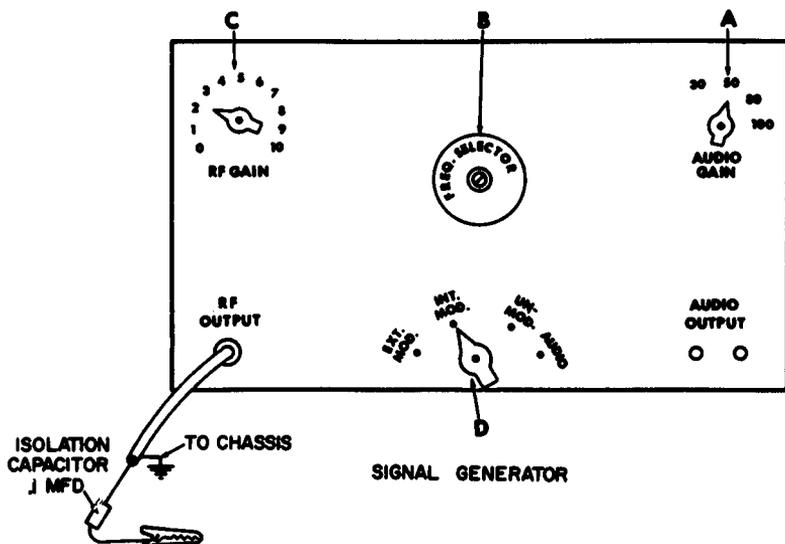

Fig. 3-10. Generator setup for checking the RF and IF sections of a receiver.
1. Turn emission selector (D) to the "internally modulate" position (see Fig. 3-10).
3. Set the audio gain control (A) to a moderate setting. (If the control is marked in per cent of modulation, use 30%. Otherwise, use about half the maximum audio gain.)
4. Set the RF gain control (C) to the position giving the desired signal strength. If it is not known, start at a low value.